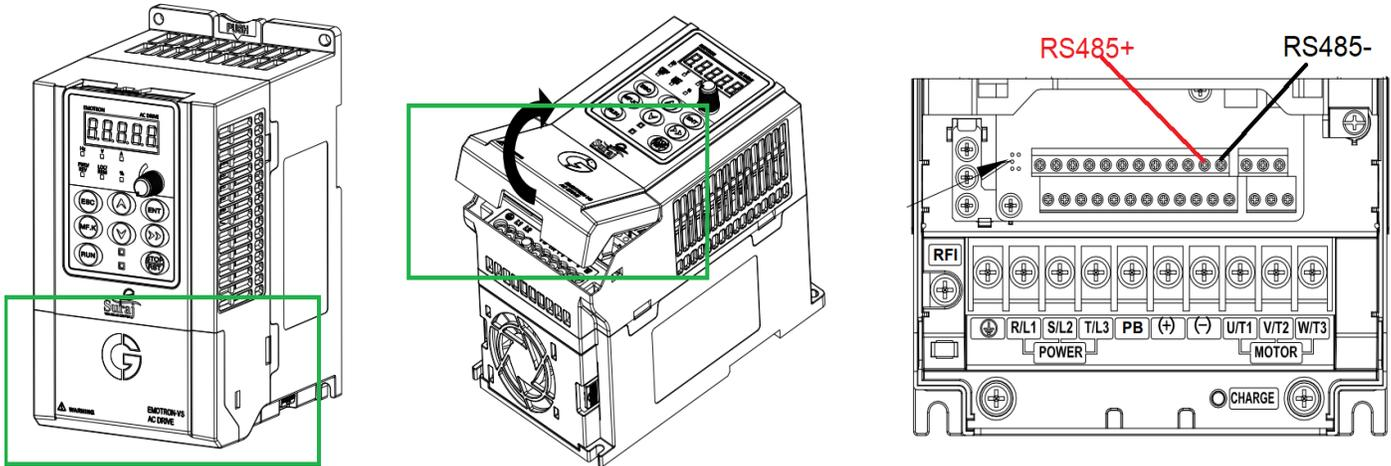

Figure C1– Communication Port of Crompton VSR Series
2. Locate the RS485 terminal (communication port 1) as shown in Figure C1.